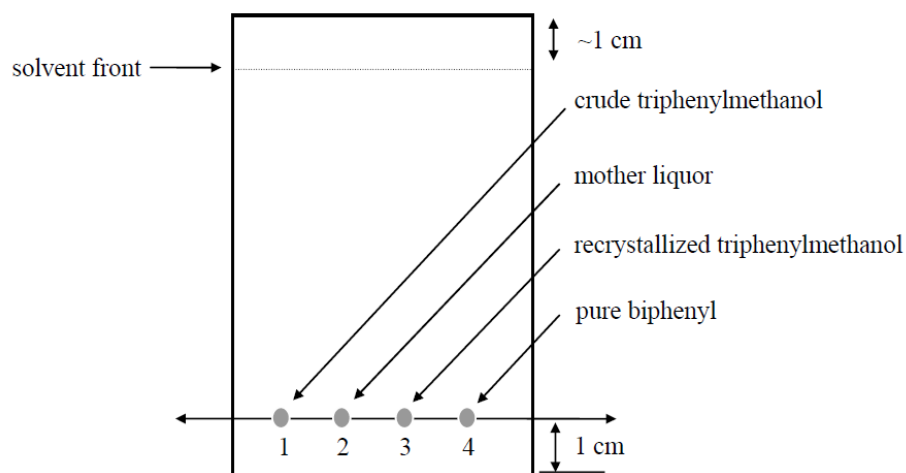

Figure 16.2. Thin-layer chromatography plate
3. Spot the TLC plate with samples of the four solutions as shown in Figure 16.2.